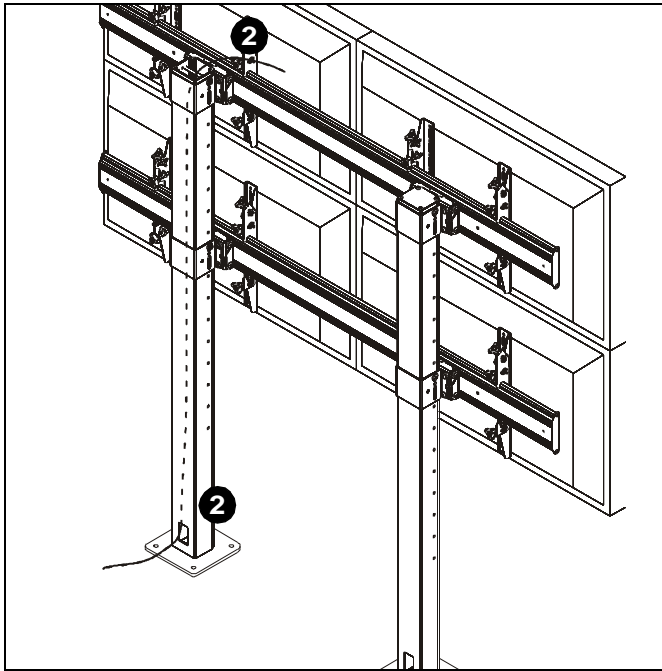

Figure 18
2. Cables may be routed through tops of columns and out through the back cable management hole. (See Figure 18)